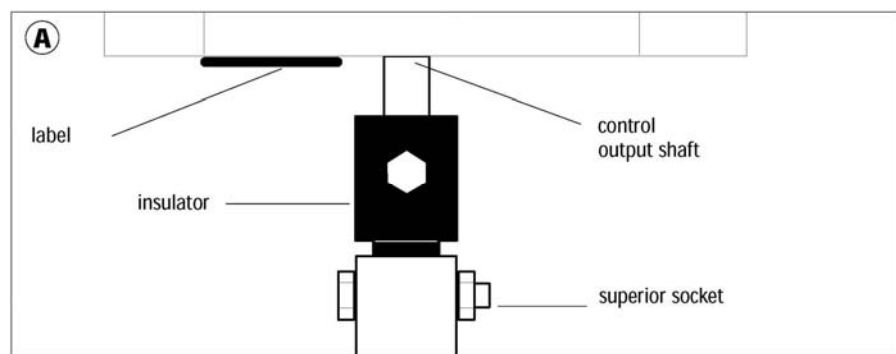

fig. 12
- Fit insulator on superior tube of rod assembly (fig.12)
-Connect the whole assembly onto the output shaft of the switchgear mechanism checking the good position of this output shaft according to the label situated under the cover of the mechanism (fig.12).